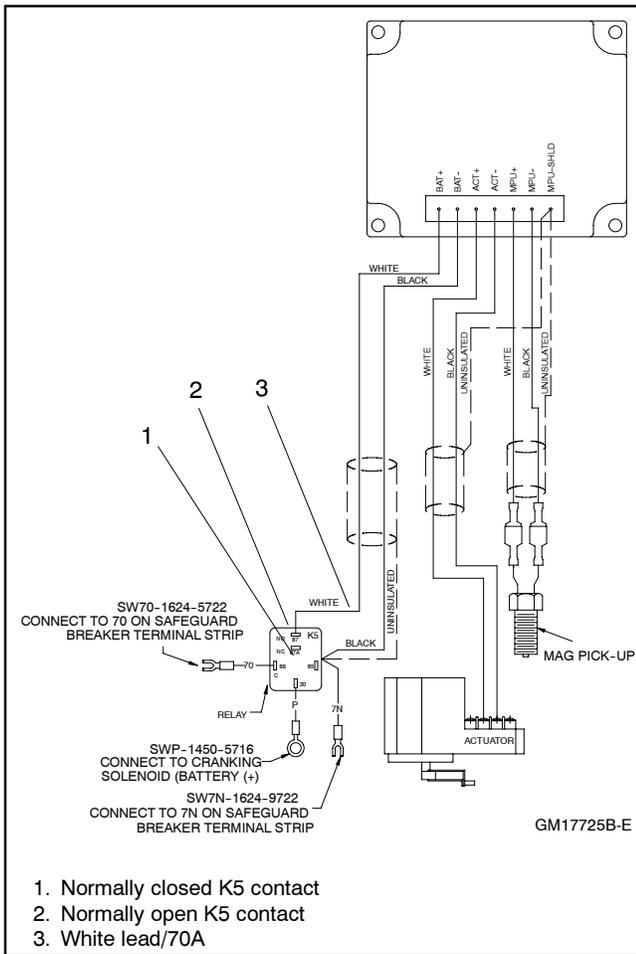

Figure 6 Energizing the Governor Controller (non-load share model shown)
- 4.4 Energize the governor controller by moving the white lead/70A from the normally open K5 contact to the normally closed K5 contact. See Figure 6. Connecting to the normally closed contact will energize the governor controller without starting/running the generator set.
- 6.2 Move the white lead/70A from the normally closed K5 contact back to the normally open K5 contact. See Figure 6.